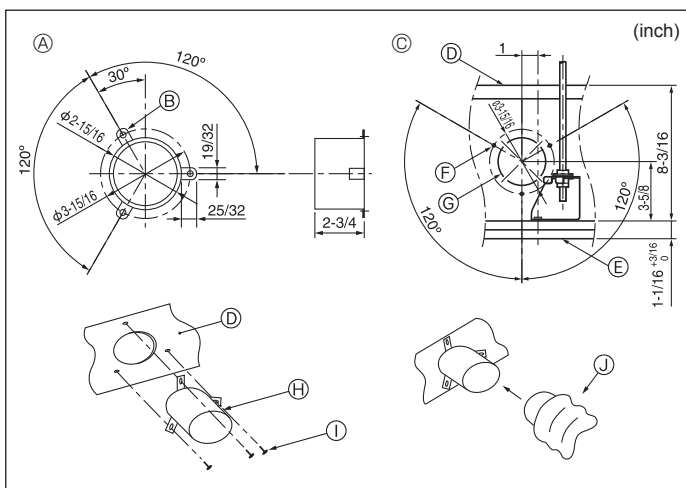

Fig. 3-3
- ① Fresh air intake
3.3. Installation of duct (in case of fresh air intake) (Fig. 3-3)